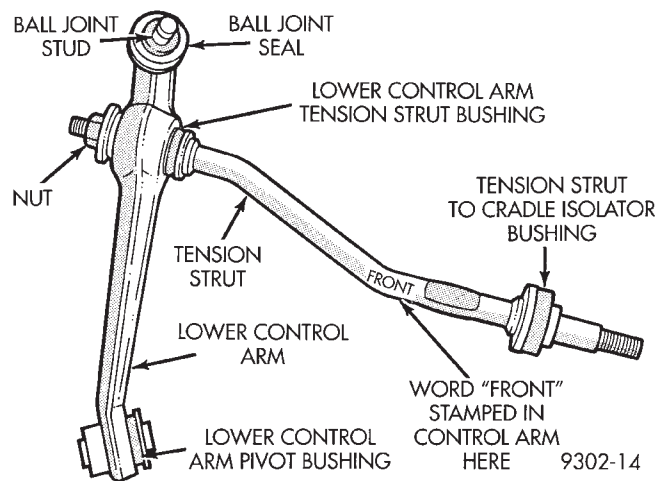

Fig. 10 Tension Strut Installed In Lower Control Arm
(1) Remove lower control arm and tension strut as an assembly from the vehicle. See Lower Control Arm Removal in this section of the service manual for the required removal procedure.
(2) Separate the tension strut from the lower control arm assembly.
(3) Inspect tension strut bushing in lower control arm for excessive wear or deterioration. If tension strut bushing is found to be defective replace lower control tension strut bushing at this time. Refer to Lower Control Arm Bushing Service in this section of the service for tension strut removal and installation procedure.
(4) Install replacement tension strut into tension strut bushing on lower control arm assembly. Position tension strut in lower control as shown in (Fig. 10), with word **FRONT** stamped in tension strut positioned away from control arm (Fig. 10). With an open end wrench on flat of tension strut to keep tension strut from turning. Torque **NEW** tension strut to lower control retaining nut to 175 N•m (130 ft. lbs.).
(5) Install lower control arm and tension strut as an assembly back on the vehicle. See Lower Control